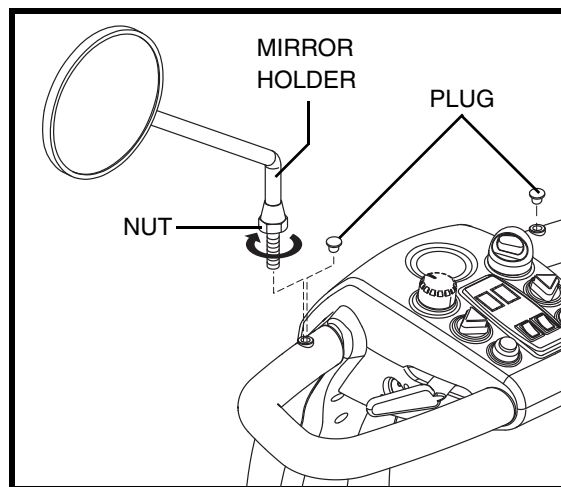

Figure 17. Mirror Installation
**To install the mirror (see figure 17):**